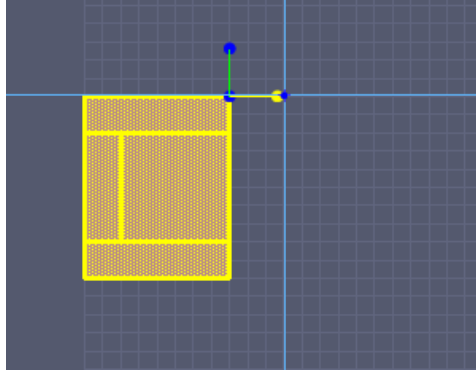

Figure 10.1. Edit handles of a selected object
- By default, handles will be positioned at the center of the selection. A click anywhere on the grid will pin these handles to a new location, such as a corner of the object Figure 10.1.